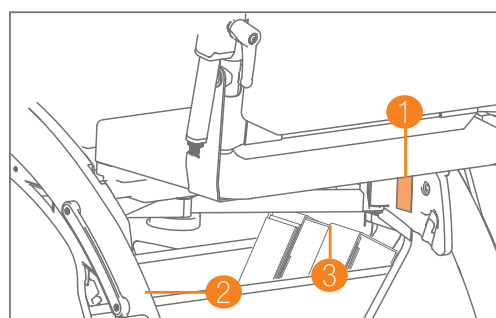
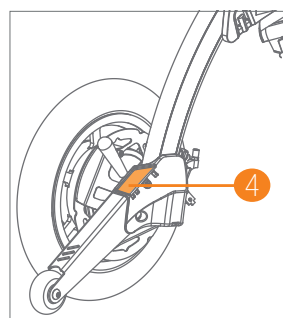
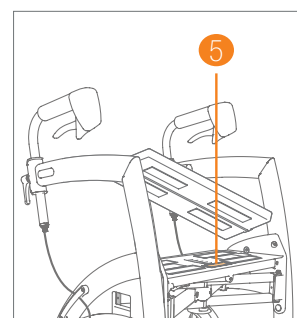

Figure 84: Location of the labels and stickers on Rollz Motion Electric
Figure 85: Freewheel stickers on the anti-tipping aids.
Figure 86: Remove the cushion to view the product label on the seat.
12. Ensure that the Rollz Motion Electric displays the product label and stickers for safe operation and regulatory compliance (**Figure 84**, **Figure 85**, **Figure 86**).
Do not remove, cover, or obstruct any labels or stickers on the device and battery, as these contain vital information that users and maintenance personnel rely on to operate the device safely (**Figure 84** and **Figure 85**). Altering or obscuring labels may result in misuse, increased risk of malfunction, or voiding of warranties and regulatory standards.
Register your product with Rollz International by filling out the online form on www.rollz.com. Make sure to enter the serial number of your Rollz Motion Electric. This number can be found on the sticker on the seat (**Figure 86**). When registering, you can also sign up for an e-mail newsletter to stay informed about Rollz product news.